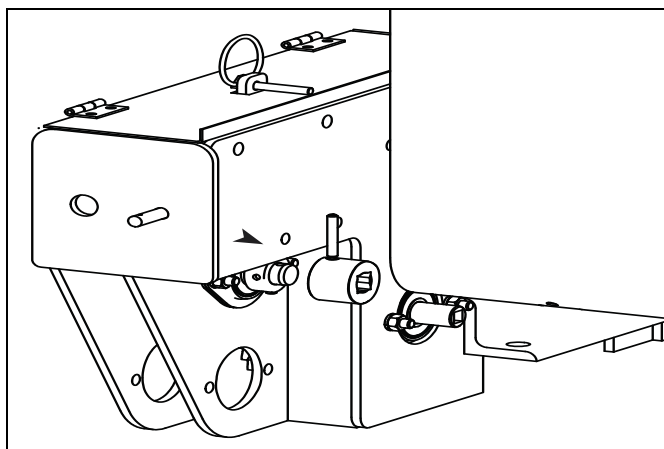

Figure 2-31: Coupling Transmission
2. Install coupling on transmission output shaft and secure with 1/4" x 1-1/2" roll pin. See Figure 2-31.